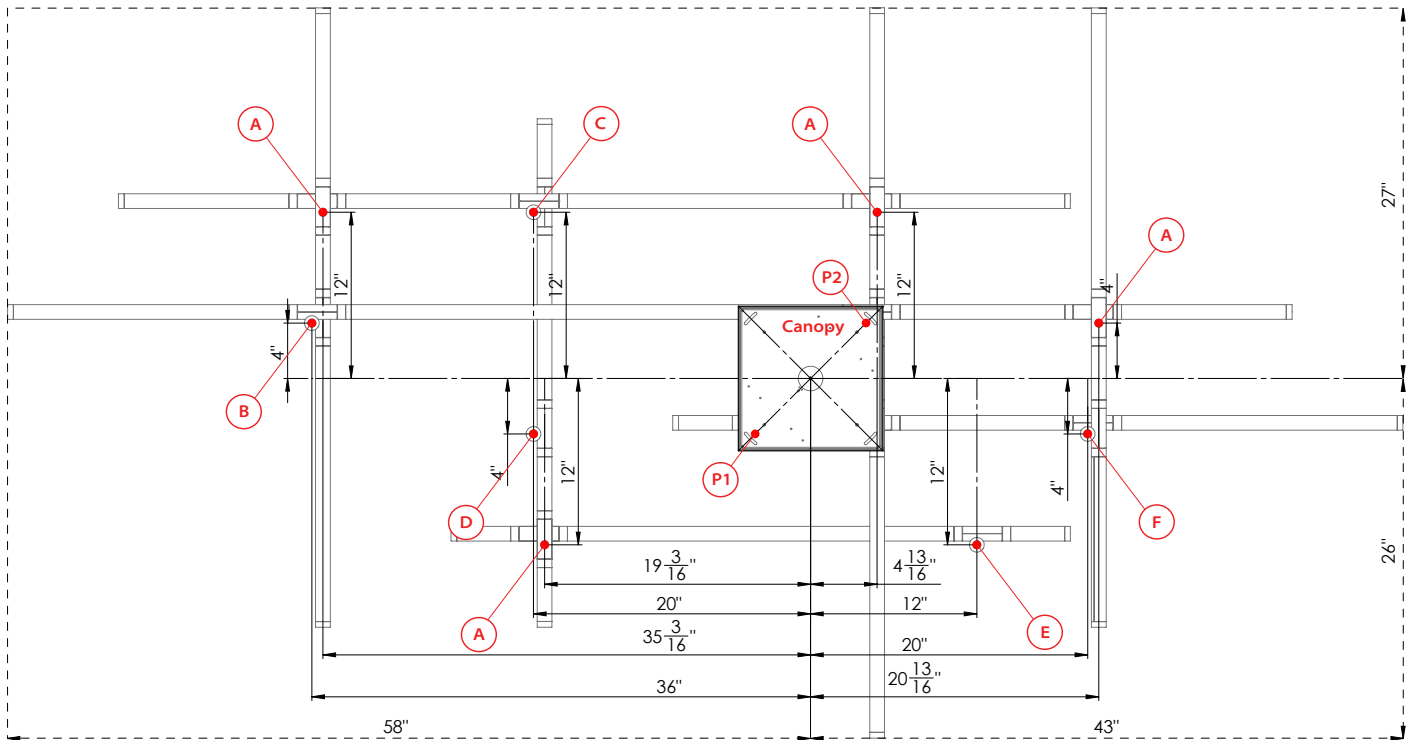

Fig. 1 - Top View
3. Note the volume of the assembled fixture, the top of Subassembly P1 will be the top of the fixture. Use this to adjust the assembly height. See Fig. 1-B to confirm the suspension point locations in the final assembly.